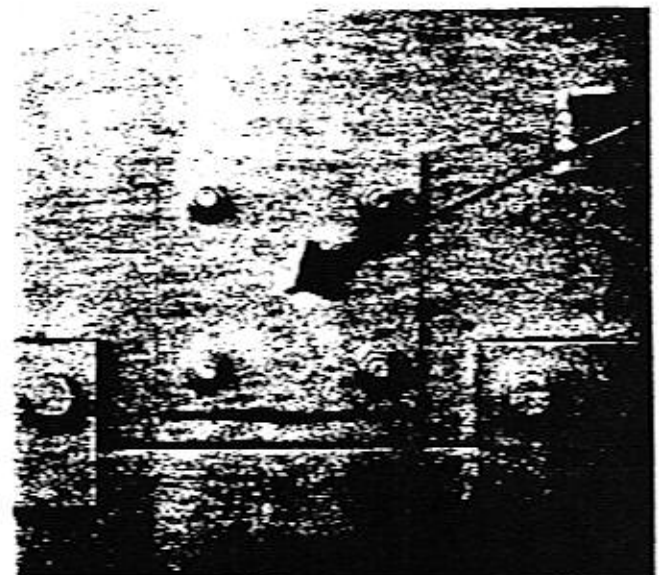

Figure 8-11
Lubricate the one (1) fitting located on the right end of the cutter drum with 25 shots of multi-purpose EP grease. It is essential that this bearing be lubricated daily to ensure proper operation of the cutter drum. See Figure 8-11.